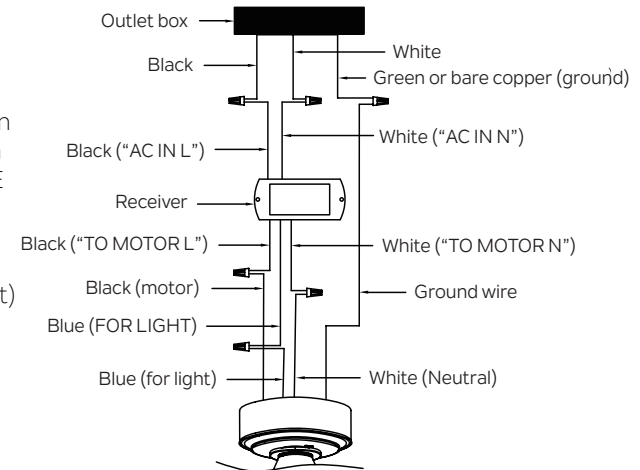

Fig. 14
**Step 2.** Motor to Receiver Electrical Connections: Connect the BLACK wire from the fan to BLACK wire marked "TO MOTOR L" from the receiver. Connect the WHITE wire from the fan to the WHITE wire marked "TO MOTOR N" from the receiver. Connect the BLUE wire from the fan to the BLUE wire marked "FOR LIGHT" from the receiver. Secure all the wire connections with the plastic wire connectors provided. ( Fig. 14)
**Step 3.** Remote Receiver to Outlet Box Electrical Connections: Connect the BLACK (hot) wire from the ceiling to the BLACK wire marked "AC IN L" from the receiver. Connect the WHITE (Neutral) wire from the ceiling to the WHITE wire marked "AC IN N" from the receiver. Secure all the wire connections with the plastic wire connectors provided. ( Fig. 14)
**Step 4.** If your outlet box has a ground wire (green or bare copper) connect it to the fan ground wires. Otherwise, connect the fan ground wire to the mounting bracket. Secure the wire connection with a plastic nut provided. After connecting the wires, spread them apart so that the green and white wires are on one side of the outlet box and black and blue wires are on the other side. (Fig. 14)